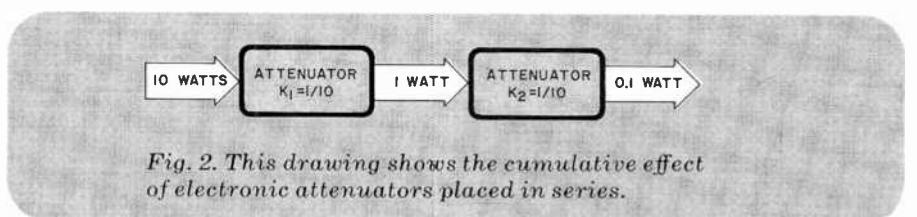

Fig. 2. This drawing shows the cumulative effect of electronic attenuators placed in series.
the attenuator, P_O , is related to the input power P_I by the equation $P_O = (K) (P_I)$ with $K = 1/10$; where K is a ratio called the gain factor. Of course, it is possible to cascade two or more such networks to obtain a cumulative effect, as shown in Fig. 2. Here two attenuating networks are used. Their total effect is identical to that produced by a single attenuator with a gain factor of 1/100: $P_O = (1/10) (1/10) (P_I) = (1/100) (P_I)$.